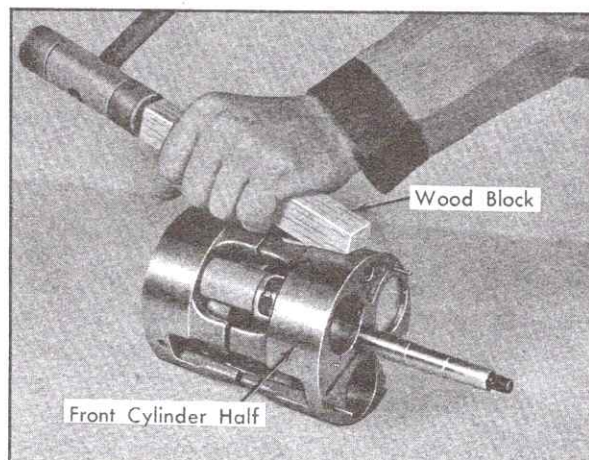

Fig. 1-51 Separating Cylinder Halves
3. Separate cylinder halves, using a wood block and mallet, Fig. 1-51. Make certain that discharge cross-over tube does not contact swash plate when separating cylinder halves.